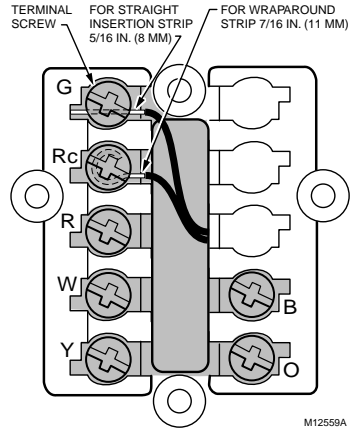

Fig. 4. Connecting wiring.
- Match the letter of your old thermostat wire with the terminal of the corresponding letter on your new thermostat. Refer to Fig. 4.